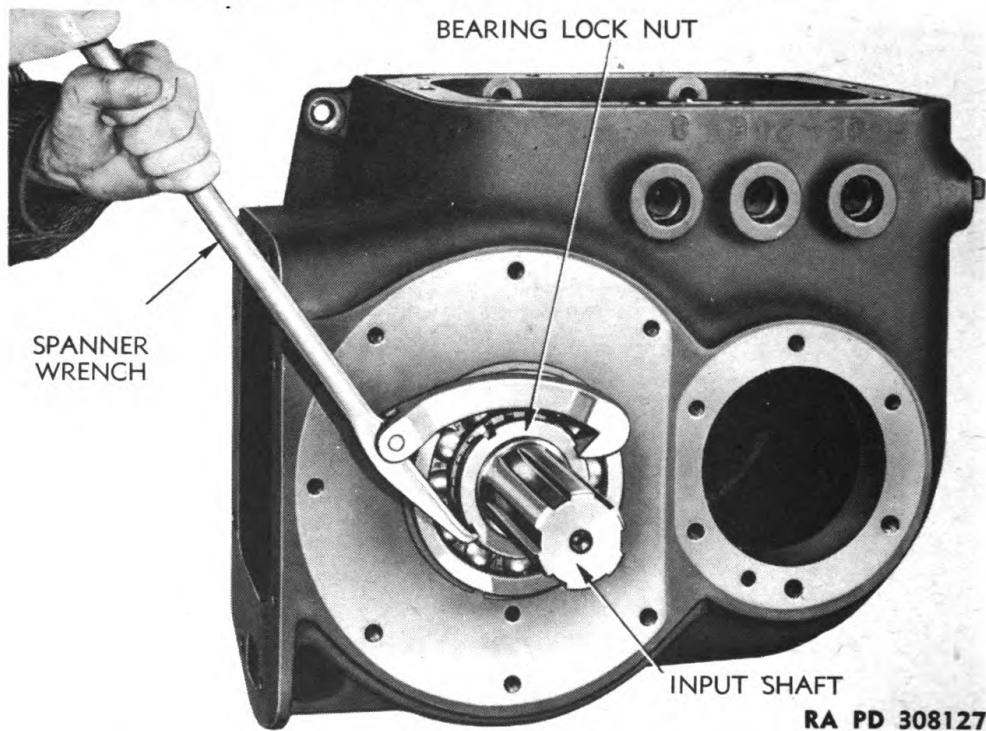

Figure 27 – Removing Lock Nut From Input Shaft, Using Spanner Wrench (41-W-3250-10)
c. Remove Input Shaft Assembly. Bend prong of lock washer out of slot in bearing lock nut and, using spanner wrench (41-W-3250-10) remove nut from shaft (fig. 27). Drive shaft toward front of case until front bearing is out of case. This will free the split lock ring in counterbore of low range pinion and lock ring can be removed. Then drive shaft on out of rear bearing and remove shaft with front bearing from front of case. Remove thrust washer, high range pinion,